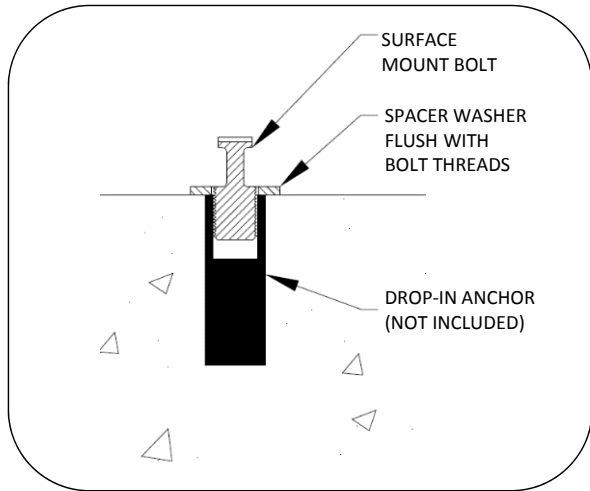

Fig. 1 – Section view of spacer for surface mt bolt
6. Remove surface mount bolts from unit. Install into drop-in anchors. Use the supplied washer as a height gauge, see Fig. 1, for the surface mount bolt. The top of the threaded portion of the surface mount bolt should be flush with the top of the washer. Remove the washer after setting the height, and reuse for the second surface mount bolt.